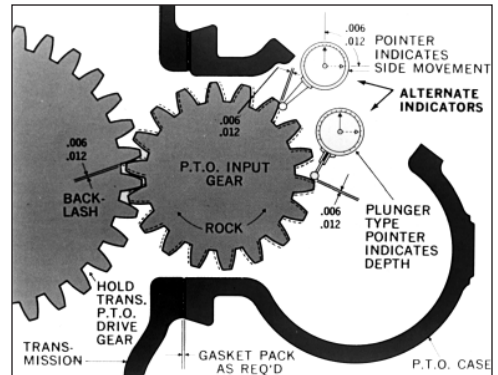

Fig. 11
**NOTE:** For proper location of dial indicator contact point (See Fig. 11). (Two common type dial indicators shown).